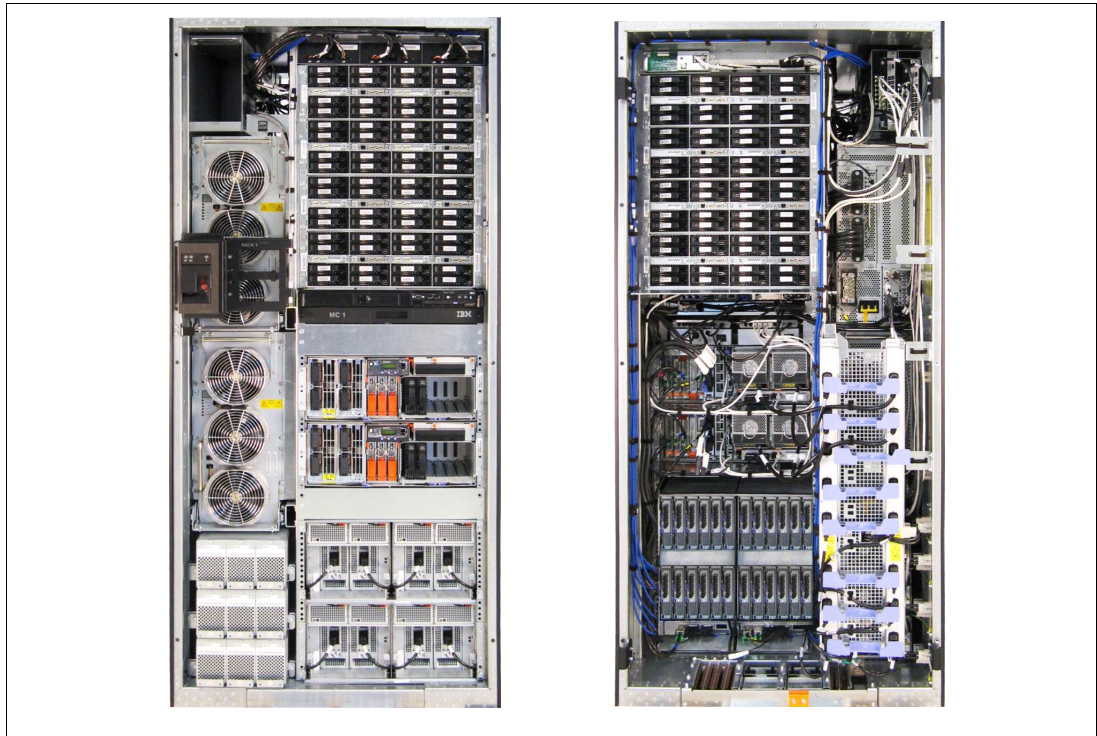

Figure 2-1 DS8700 base frame with covers removed: Front and rear
The DS8700 Model 941, shown in Figure 2-1, has the following features:
- ▶ The DS8700 Model 941 can connect up to four expansion frames (Model 94E). Figure 2-1 displays a front view of a DS8700 Model 941 and 94E with the covers off.